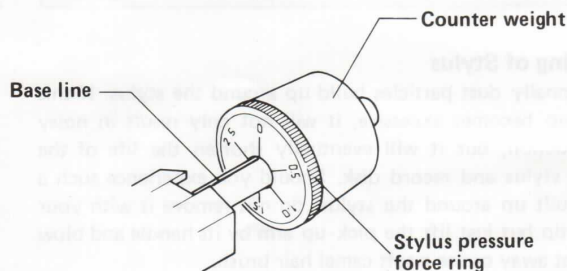

Fig. 9
- While holding the counter weight, set the stylus pressure force ring to the zero position relative to the base line (Fig. 9).